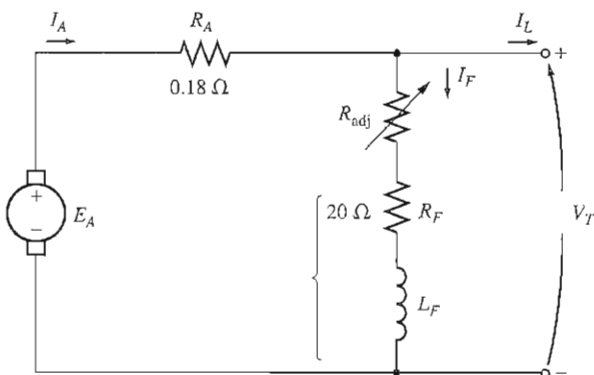

FIGURE P8-9
- 8-25. The machine in Problem 8-22 is reconnected as a shunt generator and is shown in Figure P8-9. The shunt field resistor R_{adj} is adjusted to 10 Ω , and the generator's speed is 1800 r/min.